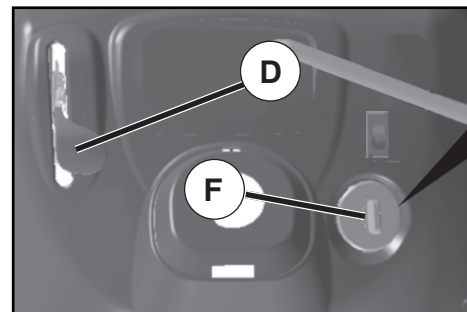

Fig. 6
- Move throttle control (D) to fast position.
- Turn ignition key (F) to “STOP” position and remove key. Always remove key when leaving tractor to prevent unauthorized use.
### TO USE THROTTLE CONTROL (D) (See Fig. 6)